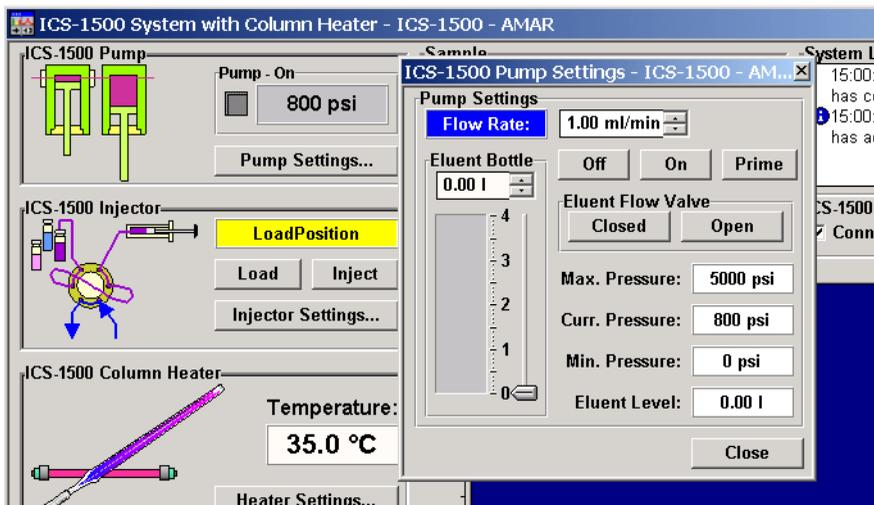

Figure B-37. Chromeleon Control Panel: Pump Settings
- On the Chromeleon Control Panel, click **Pump Settings** and then click **Eluent Flow Valve Open** (see Figure B-37).
3. Click **Prime** on the Chromeleon Control Panel (see Figure B-37). The pump will begin pumping at approximately 3 mL/min.